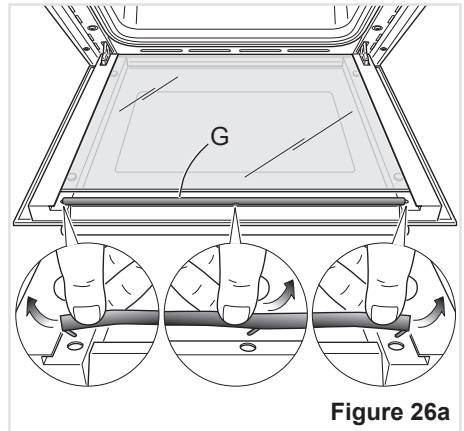

Figure 26a
- Remove the seal "G" by unhooking the no. 3 fixing hooks (fig. 26a).